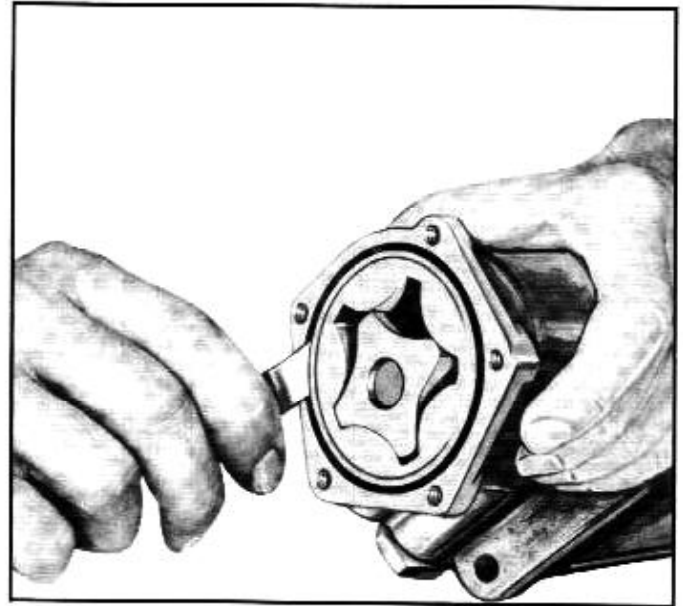

Fig. 6A-15—Checking Outer Rotor to Pump Body Clearance
7. With the rotor and shaft assembly installed in the housing, place a straight edge over the rotor assembly and pump body. Measure the clearance between the pump and straight edge at the rotor. The clearance should be .0010 to .0029 inch. See figure 6A-16.